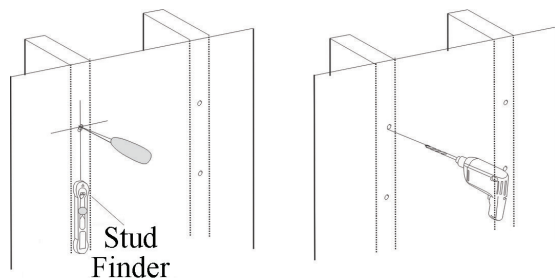

Figure 1
1. Use a high quality electronic stud finder (commercially available) to locate dead center of two wood studs 16" apart and mark the location with a pencil. See Figure 1.